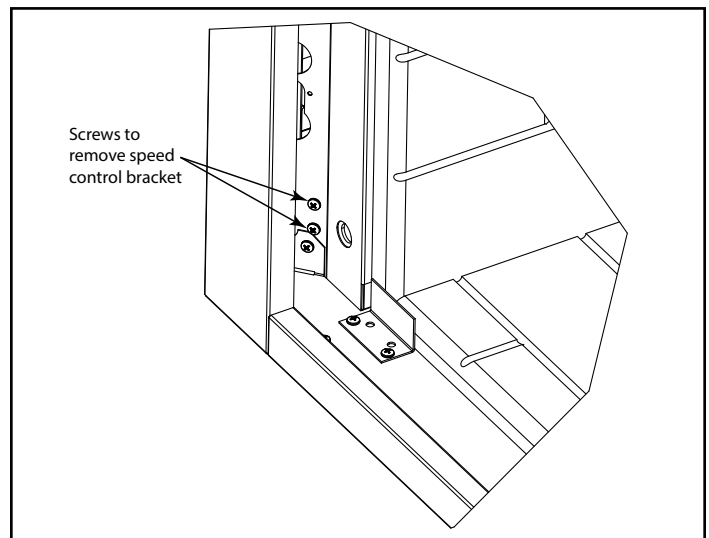

Figure 5 - Removing Speed Control Bracket
7. Remove rheostat bracket by removing two (2) screws on the venting support. See Figure 5.